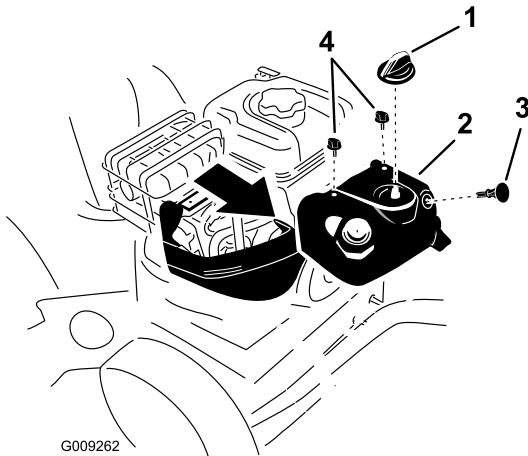

Figure 51
Note: To access the spark plug, you must first remove the upper snow hood (Figure 51).
1. Remove the choke knob and the ignition key (Figure 51).
2. Remove the 2 screws that secure the upper snow hood to the snowthrower (Figure 51).